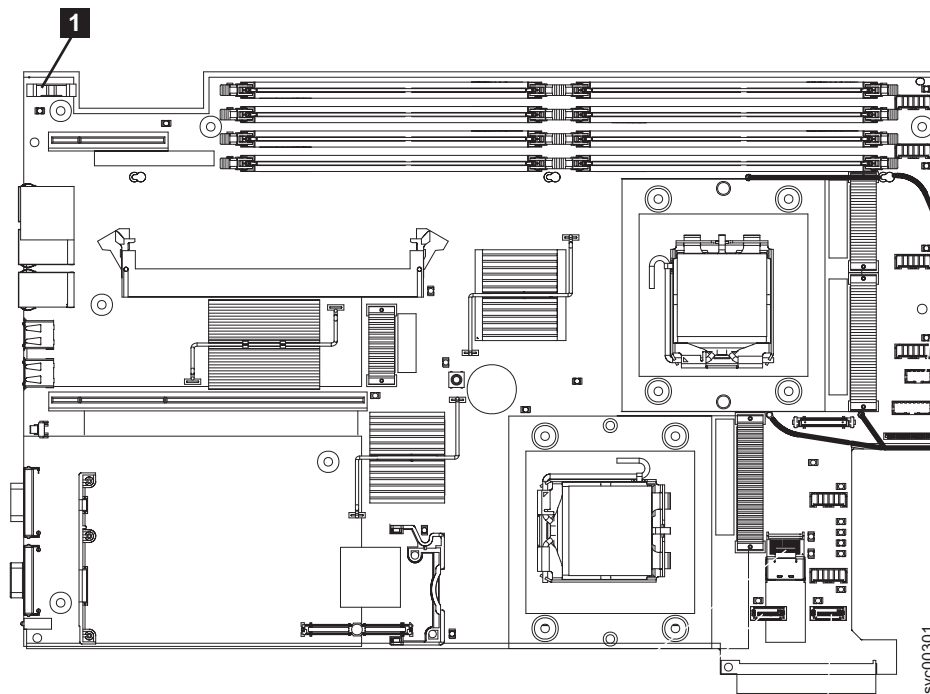

Figure 146. Location of the SAN Volume Controller 2145-8G4 CMOS battery holder
2. Locate the battery on the system board. Figure 146 shows the location (1) of the battery.